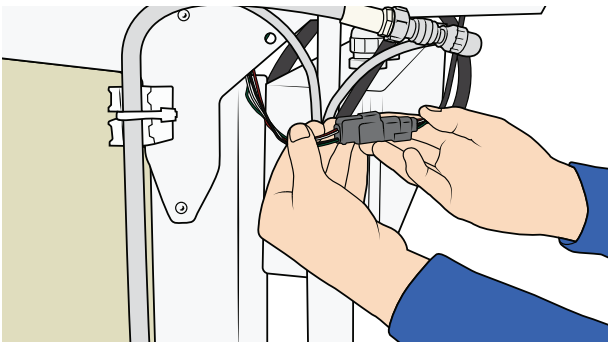

Figure 88
27. Carefully connect the scale connector. See Figure 88.